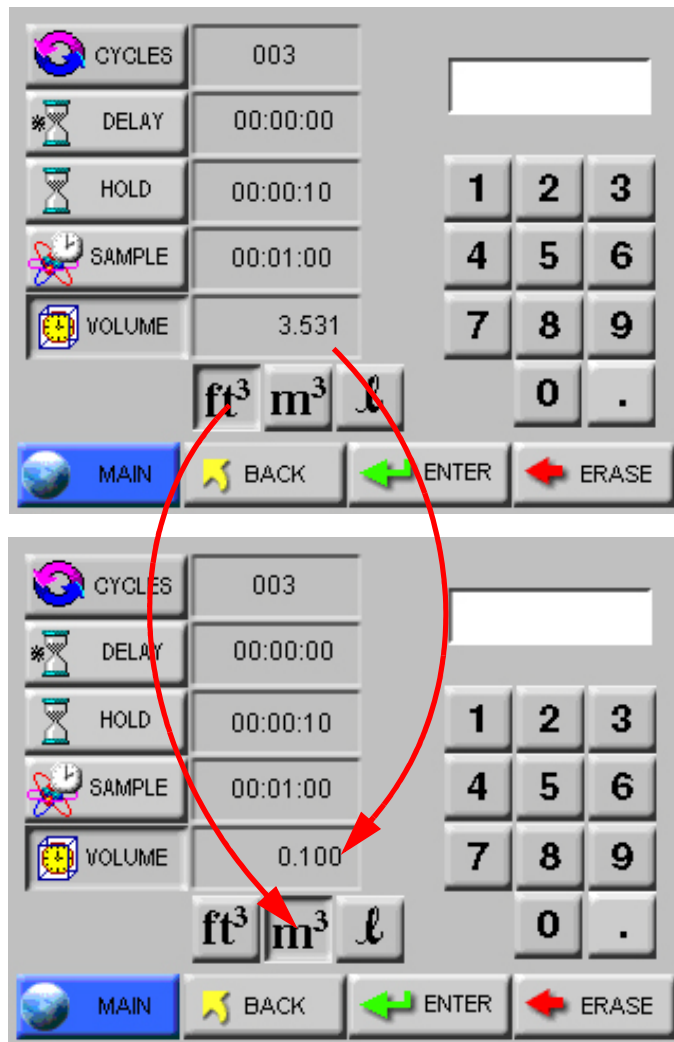

Figure 5-14 Changing Sample Volume unit of measure
- **SAMPLE VOLUME:** Instead of selecting a specific Sample Time, the instrument can be set to measure a specific Sample Volume in cubic feet (ft³), cubic meters (m³) or liters (l). When this is set, the corresponding Sample Time will automatically be set as shown in Figure 5-14.